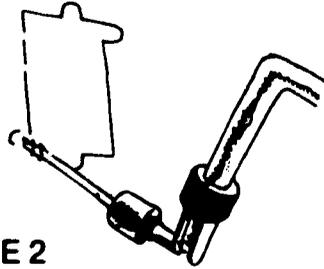

FIGURE 2
- E. Drill holes in two of the corners (Figure 2)